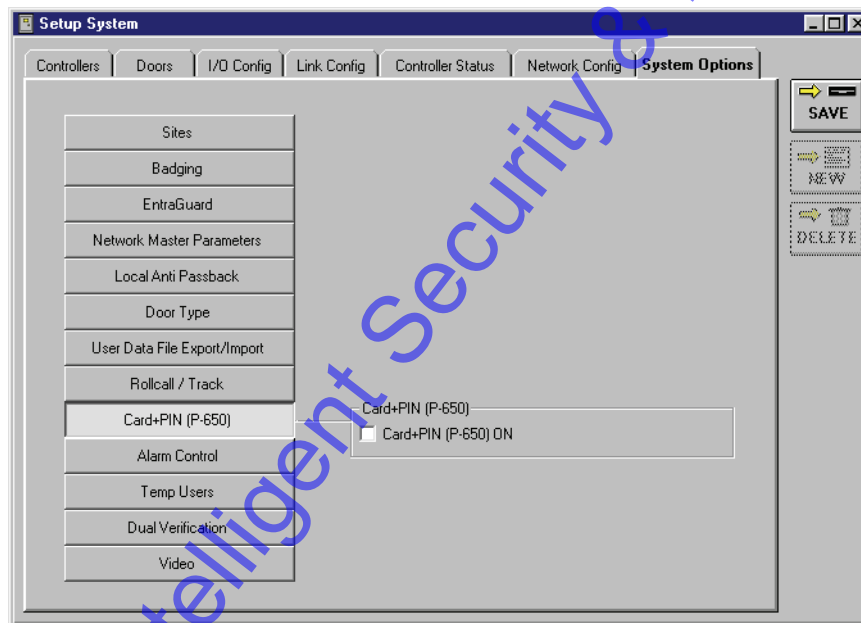

Figure 2-25: Card + PIN (P-650) Field
1. From the System Options tab, click on the  button. The System Options window will reveal the Card+PIN (P-650) field (see Figure 2-25).
2. If your system is not using a P-650 Card+PIN Proximity Reader and Keypad, verify there is **not** a check mark in the **Card+PIN (P-650) ON** box. This is the default value (see Figure 2-25).